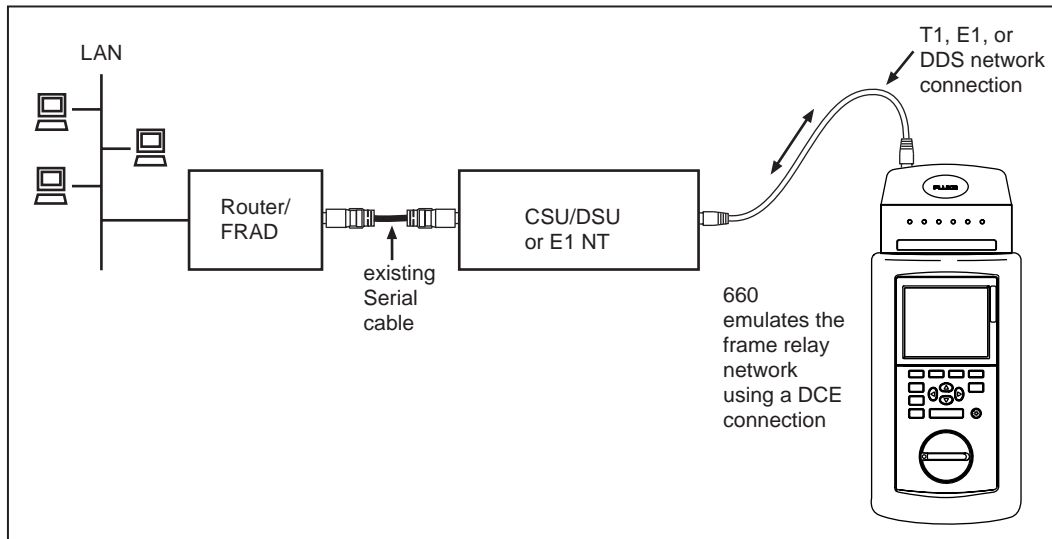

Figure 3-6. Emulating UNI or NNI Network by Terminating the T1/E1/DDS Circuit
DCE is usually the appropriate cabling scheme if the tester is emulating the frame relay network (see "Selecting an Emulation Mode"). Figures 3-6 and 3-7 show sample cabling configurations in which the tester is emulating a frame relay network. Select **DCE** as the cabling scheme if your connections look like those depicted in either figure.
2. Connect the tester to the CPE (refer to Figure 3-6 or 3-7 for assistance).